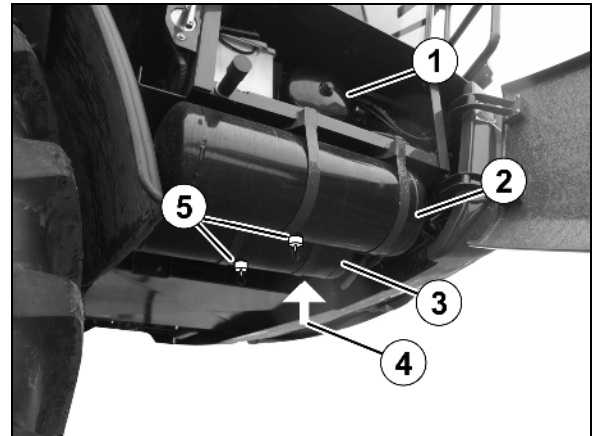

Fig. 154
A total of four air reservoirs are located under the cabin behind the right-hand maintenance flap (Fig. 154/1-4)
1. Pull the drainage valve (Fig. 154/5) in a sideways direction using the ring until no more water escapes from the air reservoir.